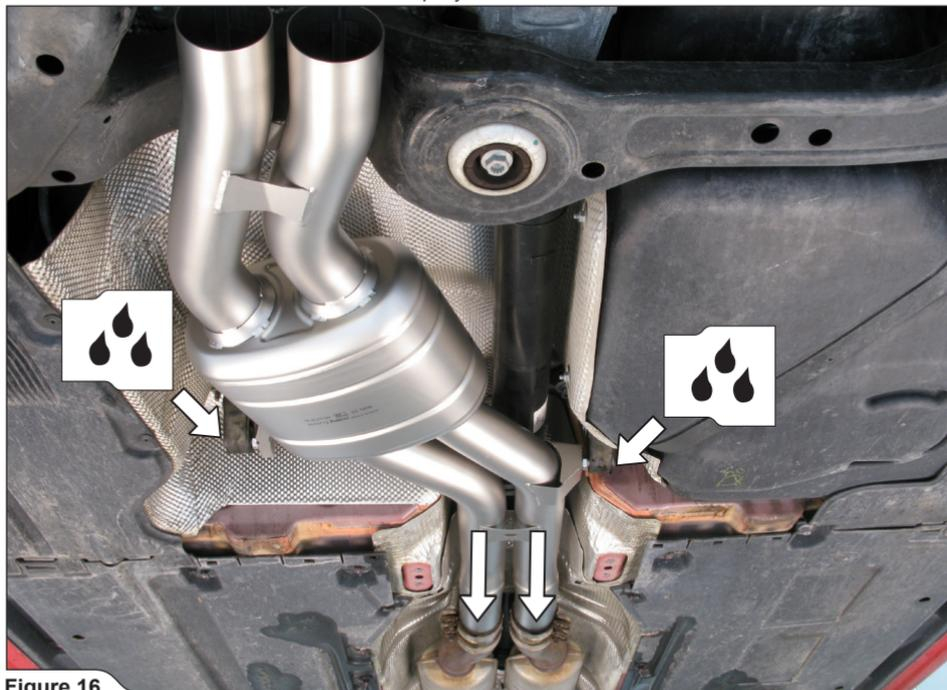

Figure 16
1. Hang the link pipes onto the rubber brackets and adjust the stock double clamps on the middle off the pipes' joints (**Figure 16**).